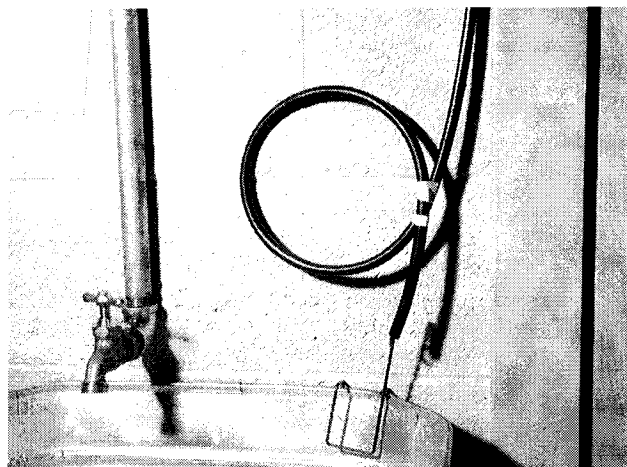

Fig. 19
- Secure the end of the drain line to an immovable object to prevent its being forced out of place during the drain cycle (Fig. 19).